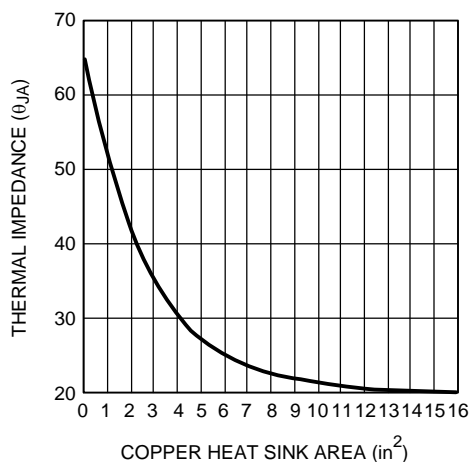

Figure 31. Thermal Resistance (Typ) for 5 Lead DDPAK/TO-263 Package Mounted on 1 Ounce of Copper
The DSDPAK/TO-263 package has excellent thermal characteristics. To minimize thermal impedance, its exposed die attach paddle should be soldered to a circuit board copper area for good heat dissipation. Figure 31 shows typical thermal resistance from junction to ambient as a function of the copper area. The DDPAK/TO-263's exposed die attach paddle is electrically connected to the V_{EE} power supply pin.
If a heat conductive copper plane has perfect thermal conduction (heat spreading) through the plane's total area, the temperature rise is inversely proportional to the total exposed area. PCB copper planes are, in that sense, an aid to convection. These planes, however, are not thick enough to ensure perfect heat conduction. Therefore, eventually a point of diminishing returns is reached where increasing copper area offers no additional heat conduction to the surrounding air. This is apparent in Figure 31. 2 oz copper boards will have decrease thermal resistance providing a better heat sink compared to 1oz. copper. Beyond 1oz or 2oz copper plane areas, external heatsinks are required. Ultimately, the 1oz copper area attains a nominal value of 20°C/W junction to ambient thermal resistance (θ_{JA}) under zero air flow.
5. θ_{JA} as a function of copper area in square inches is shown in Figure 31. Choose a copper area that will ensure the specified $T_{J(MAX)}$ for the calculated θ_{JA} . The maximum value of junction to ambient thermal resistance, θ_{JA} , is defined as:
4. Finally, choose the minimum value of copper area from Figure 31 based on the value for θ_{JA} .
Examining the Copper Area vs. θ_{JA} plot (see Figure 31) indicates that a thermal resistance of $21.4^\circ\text{C}/\text{W}$ is possible with a $8\text{--}10\text{in}^2$ plane of one layer of 1oz copper. Other solutions include using two layers of 1oz copper or the use of 2oz copper. Higher dissipation may require forced air flow. As a safety margin, an extra 15% heat sinking capability is recommended.